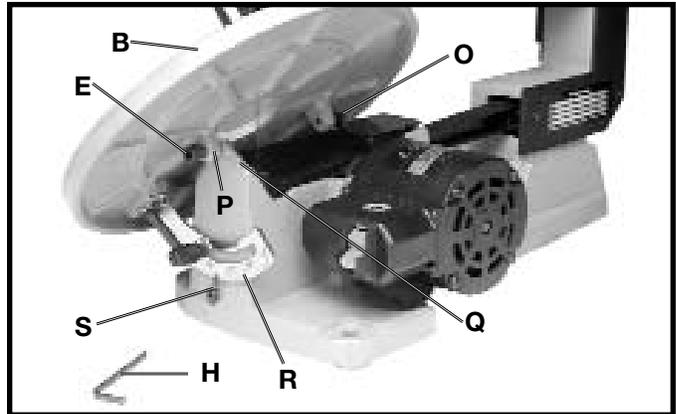

Fig. 6
3. Position table (B) Fig. 6, on the machine, as shown,